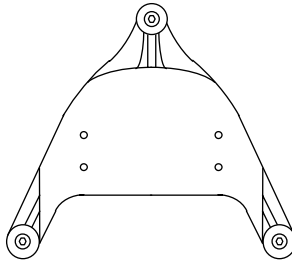
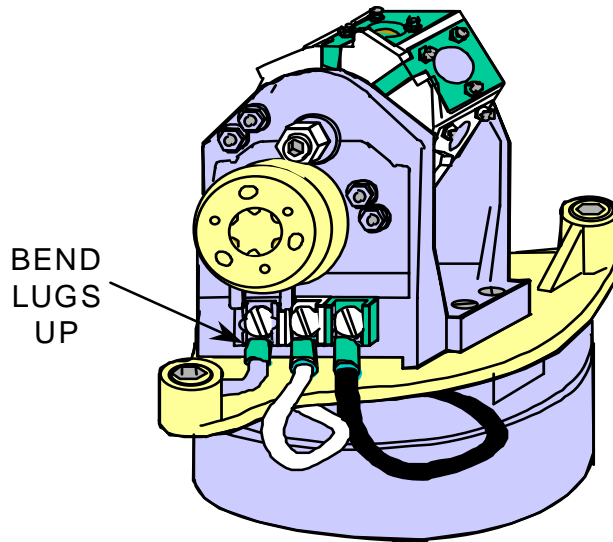

Figure 3-34
Figure 3-35
- (10) Looking down into the beacon, remove the three capscrews securing the lampchanger plate (Figure 3-34) to the flasher housing. Remove the lampchanger plate.
- (11) Wire the lampchanger with a WK-681 wiring kit. After securing the lugs, bend the lugs out 90 degrees from the terminals.
- (12) Orient the lampchanger on the Lampchanger Plate so that the terminal strip faces away from the opening in the plate, as shown in Figure 3-35.